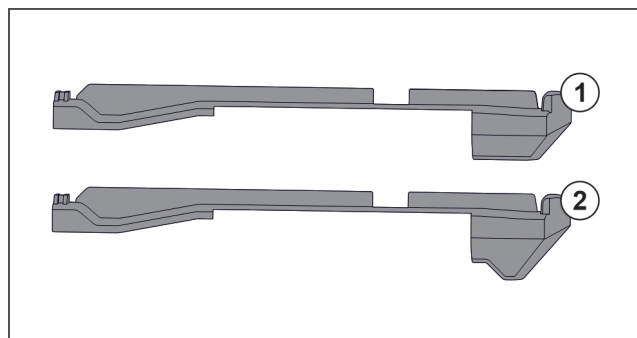

Fig. 217 Comparing attachments
There are two different attachments in the appliance. The attachment above the lowest drawer *Fig. 217 (2)* has a three-cornered edge. All other attachments *Fig. 217 (1)* have a straight edge.
- Fit attachment *Fig. 217 (2)* with the three-cornered edge above the lowest drawer.
- Fit attachment *Fig. 217 (1)* with straight edge in all other positions.